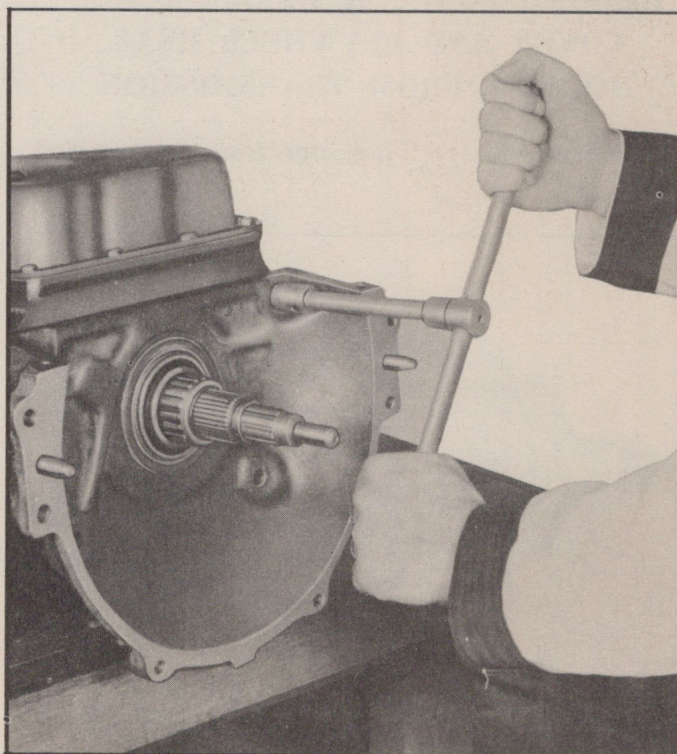

Fig. 112—Removing Flywheel Rear Housing
10. Remove four bolts and lock washers holding flywheel rear housing to front of transmission case. Remove flywheel rear housing and gasket (3/4" socket) (Fig. 112).